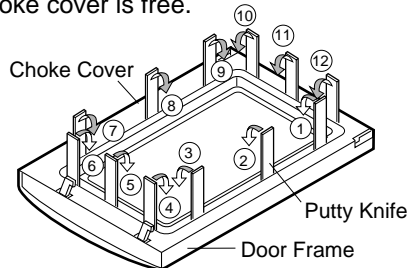

Figure C-4. Door Disassembly
3. Remove the choke cover taking care not to break clips by inserting an iron plate (thickness of about 0.5mm) or flat type screw driver to the gap between the choke cover and door panel as shown Figure C-4 to free the engaged parts.